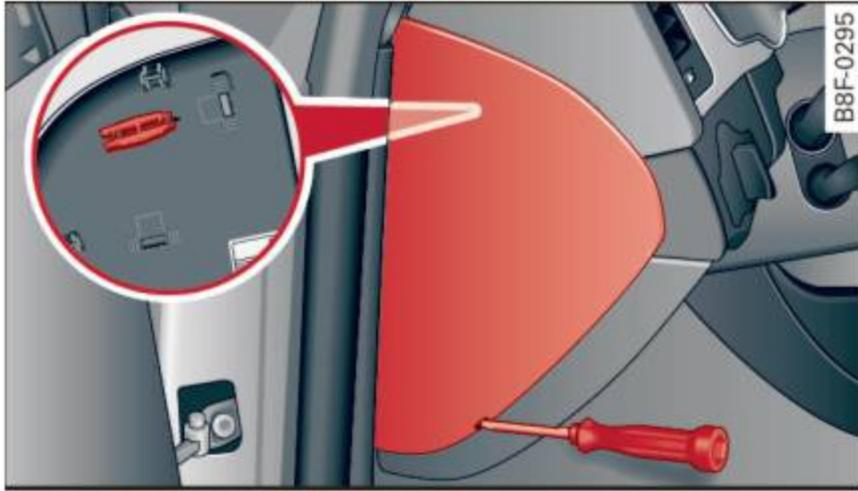

Fig. 182 Left cockpit: fuse panel cover
- ▶ Remove the clamp from the rear side of the cover ⇒ fig. 182.